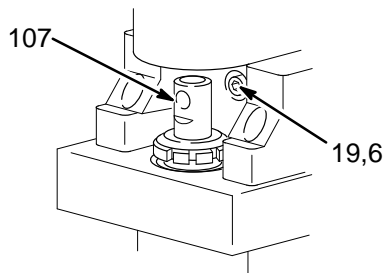

Fig. 22
2. Remove the pressure control (64). See page 26.
3. Turn the displacement pump rod (107) so the pin hole aligns with the bottom drive housing screw (19). See Fig. 22. Remove the three drive housing screws and lockwashers (19,6). Also see Fig. 23 on page 25.